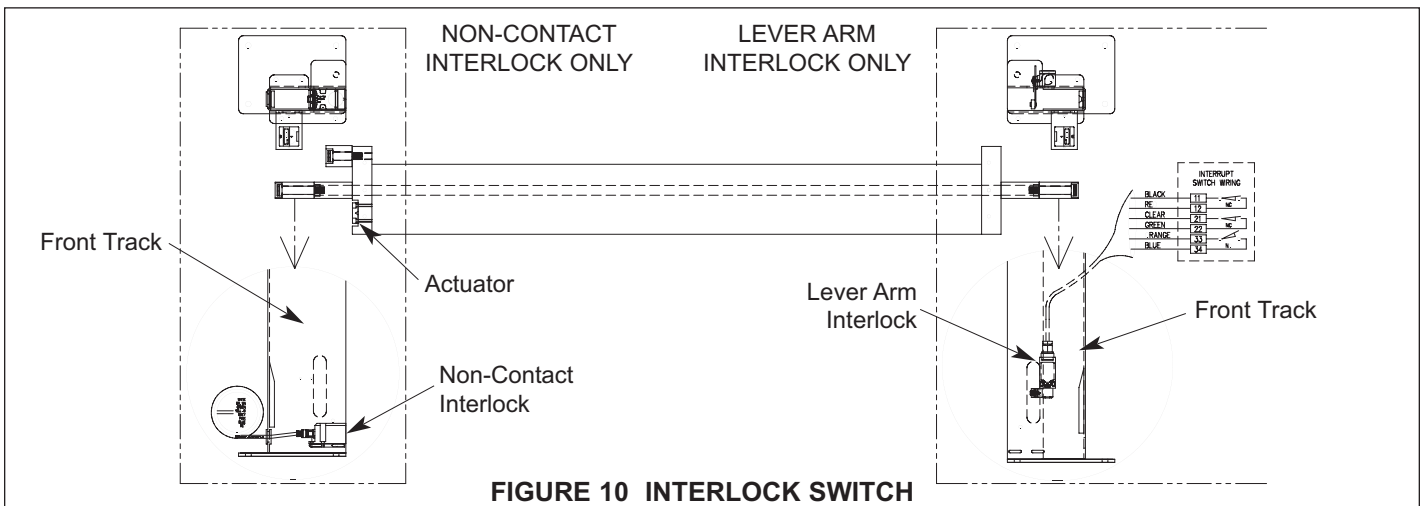

FIGURE 10 INTERLOCK SWITCH
- The Lever Arm Interlock is factory installed and not adjustable, the limit switch must be adjusted to stop the curtain bottom barrier bar in the proper position, Figure 10.